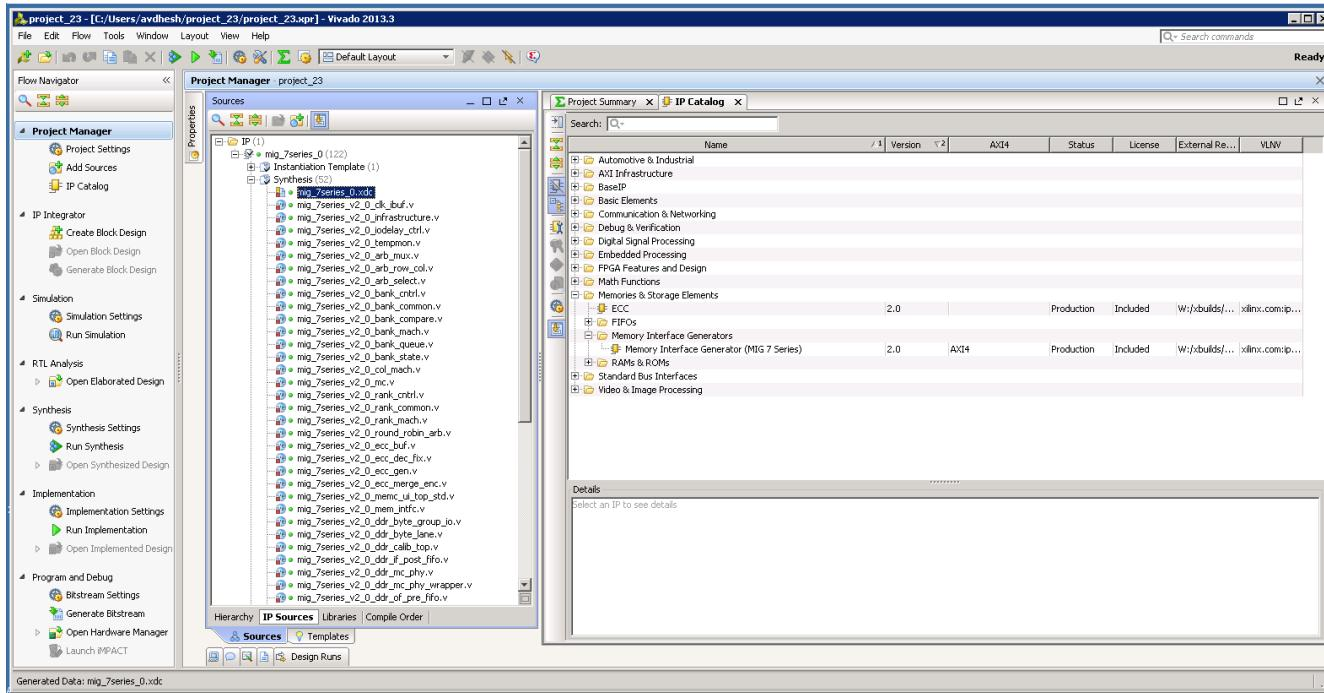

Figure 2-34: Vivado Project – RTL and Constraints Files
8. All user-design RTL and constraints files (XDC files) can be viewed in the **Sources > Libraries** tab (Figure 2-34).